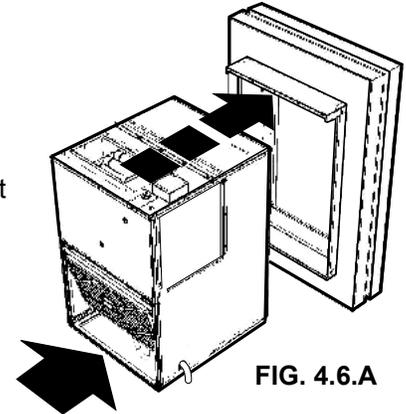

FIG. 4.6.A
2. Bring the Condo Pack as close as possible to wall opening (FIG. 4.6.A). Carefully slide the unit into the Wall Sleeve (refer to section 4.4. "Wall Sleeve Assembly" and Installation Instructions) so the front of the unit is in contact with the front flanges of the Wall Sleeve.